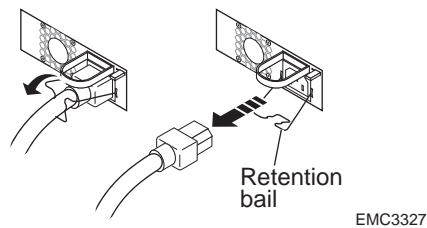

FIGURE 12. Unplugging the AC Power Cord
- STEP 2.** Release the wire retention bail on the power supply you are replacing, and unplug its ac power cord (Figure 12).